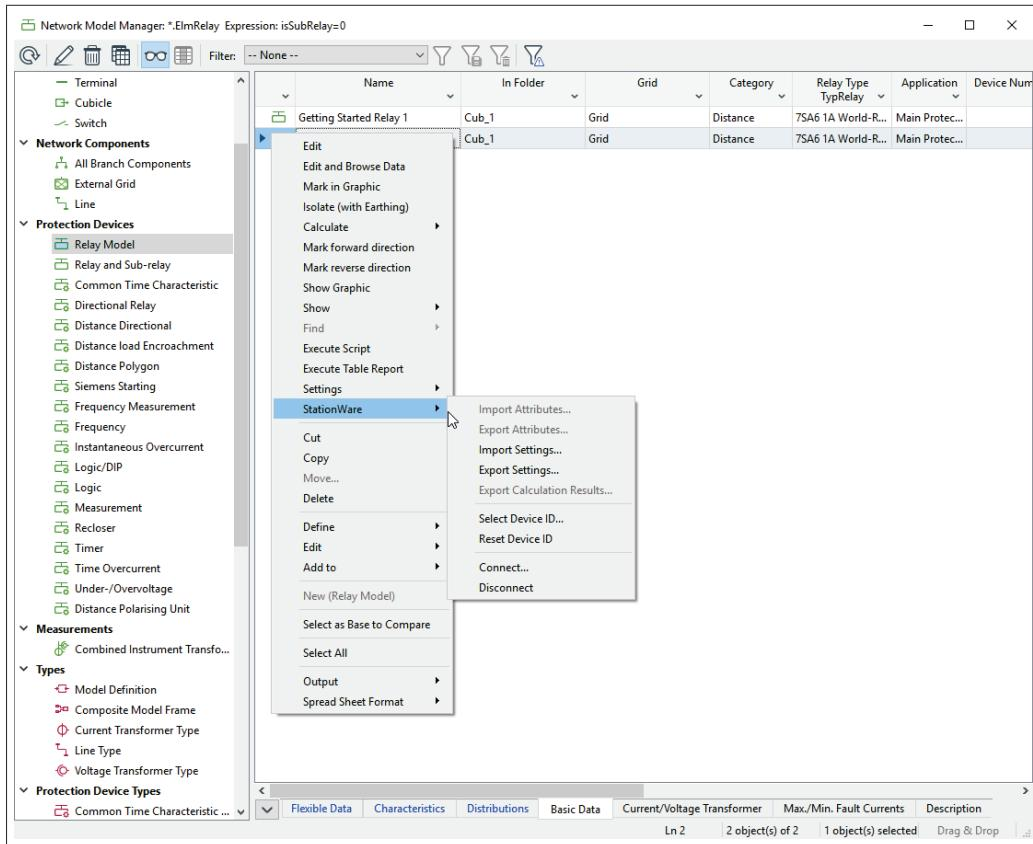

Figure 24.16.12: Device context menu
A context menu pops up as shown in Figure 24.16.12.
- Mark the relays with the mouse and right-click to get the relay context menu as shown in Figure 24.16.12.
- In *PowerFactory* mark the relays with the mouse and right-click to get the relay context menu as shown in Figure 24.16.12.
- in the object filter (Figure 24.16.12)